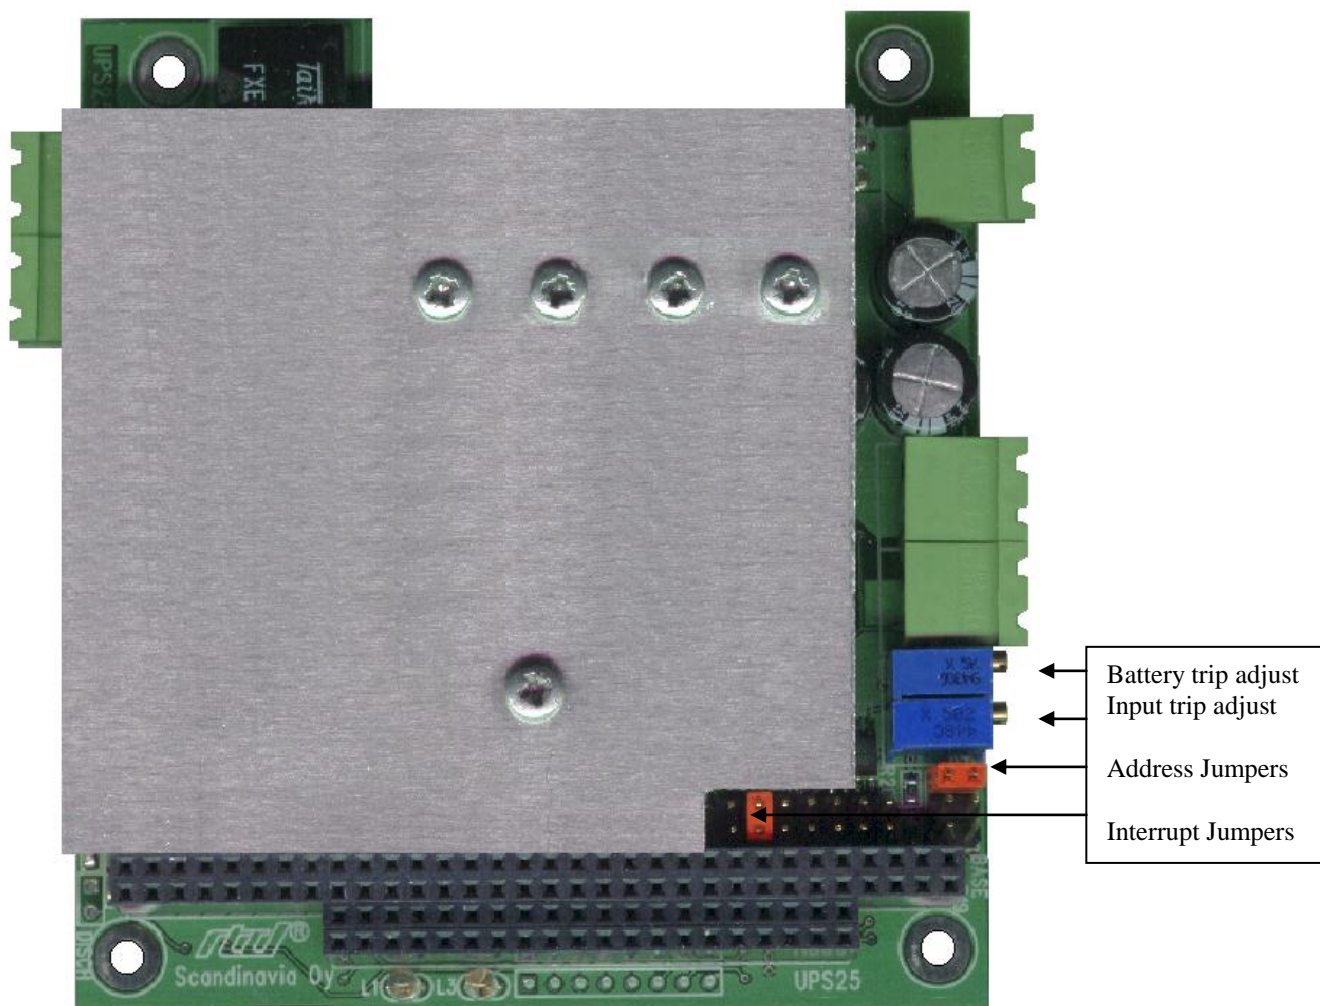

Fig. 2-1 UPS25 Board layout showing jumper locations
- Fig. 2-1 UPS25 Board layout showing jumper locations
Table 2-1 below illustrates the factory jumper setting for the UPS25. Figure 2-1 shows the board layout of the UPS25 and the locations of the jumpers. The following paragraphs explain how to change the factory jumper settings to suit your specific application.
Table 2-1 Factory configured jumper settings (Please see figure 2-1 below for more detailed locations)